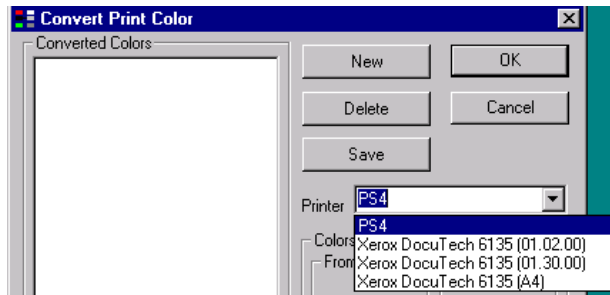

Figure 170. Selecting the Printer
3. Use the Printer pull-down menu to specify the printer that this map is being created for, Figure 170.